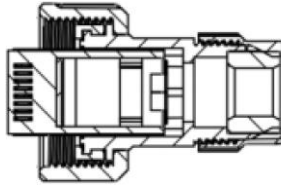

Figure 6-32 Press the RJ45 crystal head
Step 3: Press the RJ45 crystal head spring and push the crystal head into the connector slot, the crystal crown has a tight stop step, with dimensions shown in Figure 6-32.